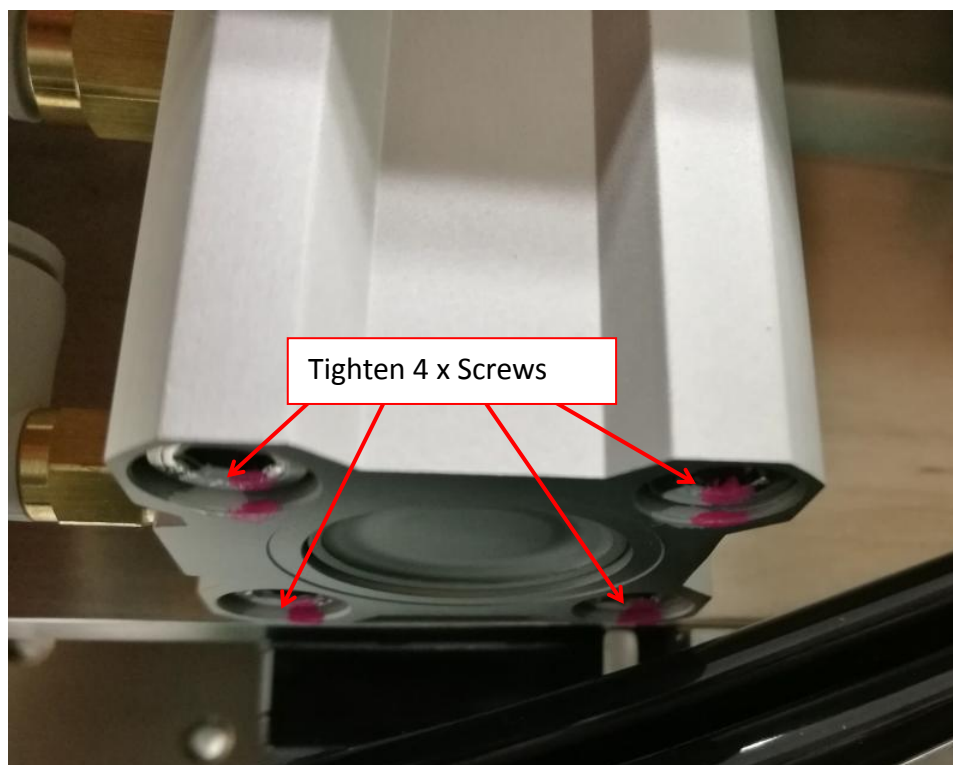

Figure 12 Clamper Cylinder Assembly
3. Tighten 4 x Screws (M5 screw) as shown in Figure 12.